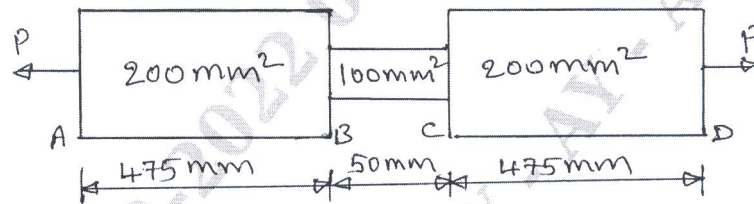

Fig. Q9 (b)
- b. The maximum stress produced by a pull in a bar of length 1 m is 150 N/mm^2 . The area of the cross sections and length are shown in Fig. Q9 (b). Calculate the strain energy stored in the bar of $E = 2 \times 10^5 \text{ N/mm}^2$. (10 Marks)